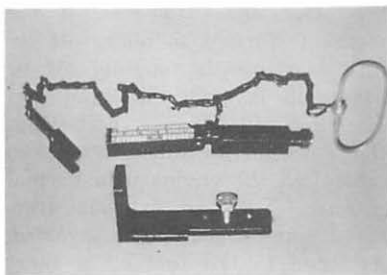

FIG. 14
- a. Collapsible Overspeed Link Compressor (Figure 14)